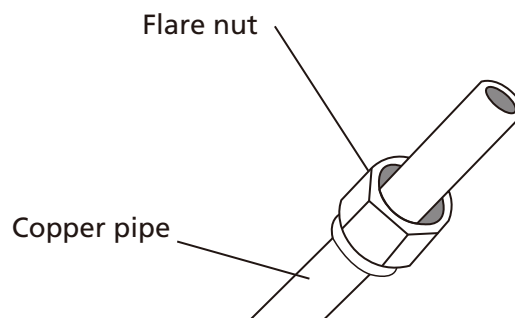

Fig. 5.3
- Place flare nuts on both ends of pipe. Make sure they are facing in the right direction, because you can't put them on or change their direction after flaring. See **Fig. 5.3**